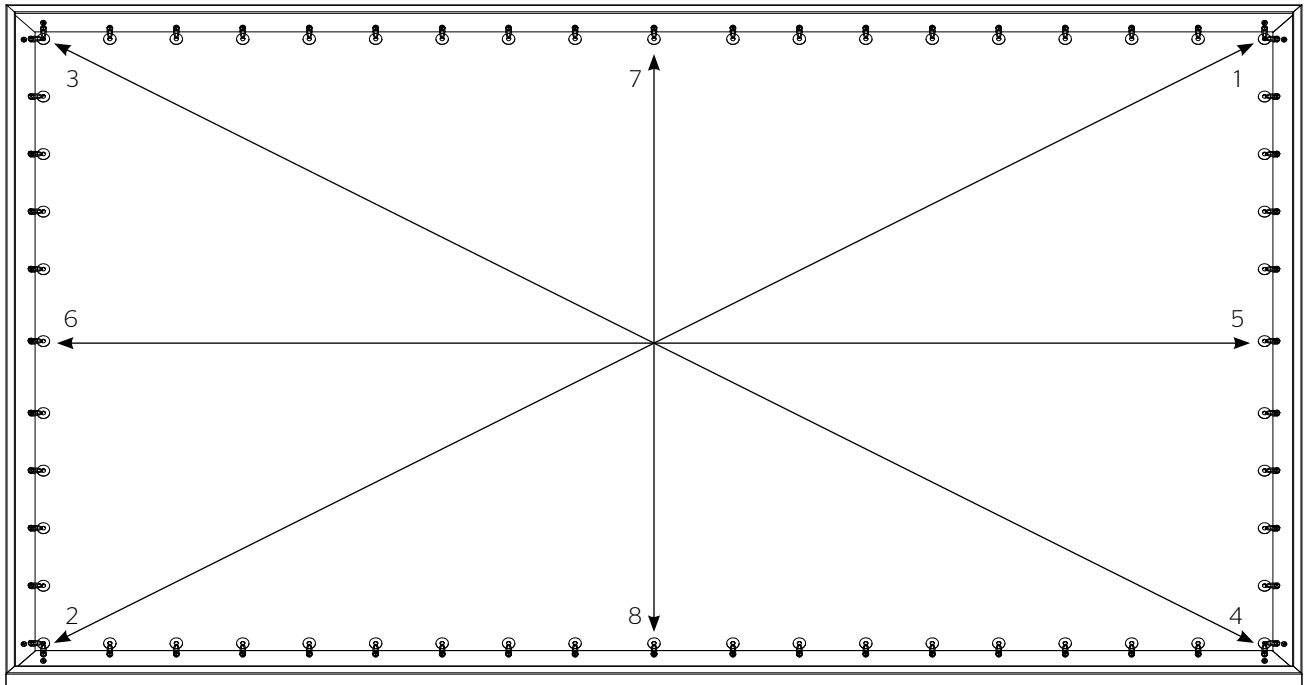

Figure 4
Use the sequence shown in Figure 4.
6. Insert one elastic ring into the center hole on the right, left, top and bottom of the screen surface and secure it over the stud. Use the sequence shown in Figure 4.